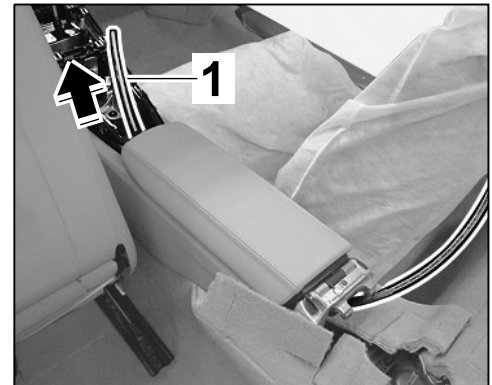

Figure 11
- 3.2.1 Secure wire harness to an auxiliary line ⇒ *Figure 11-1-* and guide it under the oddments tray ⇒ *Figure 11-arrow-*.